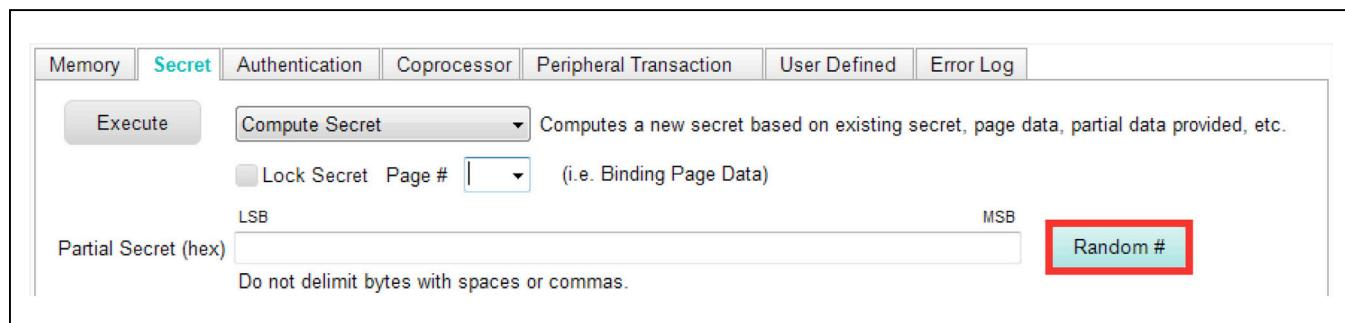

Figure 14. Generate Partial Secret
- 10) Generate a **Partial Secret** by clicking on the **Random #** button (Figure 14).